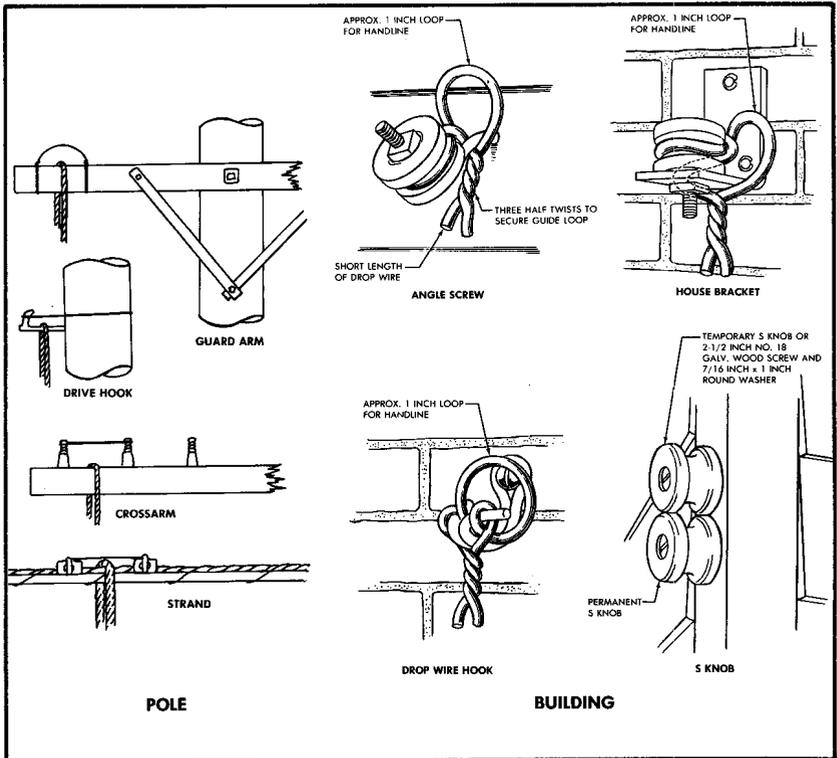

FIGURE 1. Temporary Guide Loops
disengaged from a drive hook or crossarm, or to slide along the strand or guard arm while work is being done, the handline or drop wire shall be enclosed with a temporary guide loop. This loop shall consist of a short length of wire or rope placed over the handline or drop wire, with the ends of the guide securely tied as follows (Figure 1):
**b. Employee No. 1** attaches a temporary guide loop to the first building attachment (Figure 1) to prevent the drop wire from becoming accidentally disengaged from the building attachment during the placing operation.